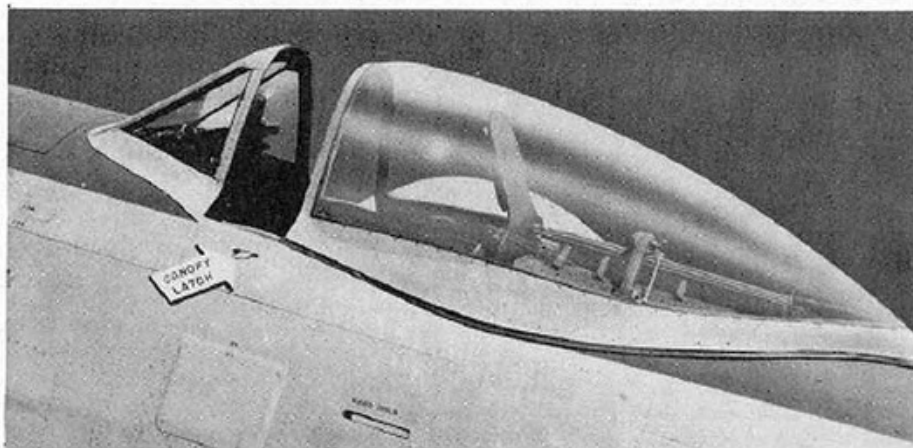

Figure 2—Bubble-Type Canopy
*b. ACCESS TO AIRPLANE.*—A step and handholds are provided in the fuselage on the left side of the airplane. The jettisonable, bubble-type canopy is unlocked by pulling on a small lever (figure 2) on the left side of the fuselage, allowing the canopy to slide back. The canopy is automatically locked in position when the lever is released.